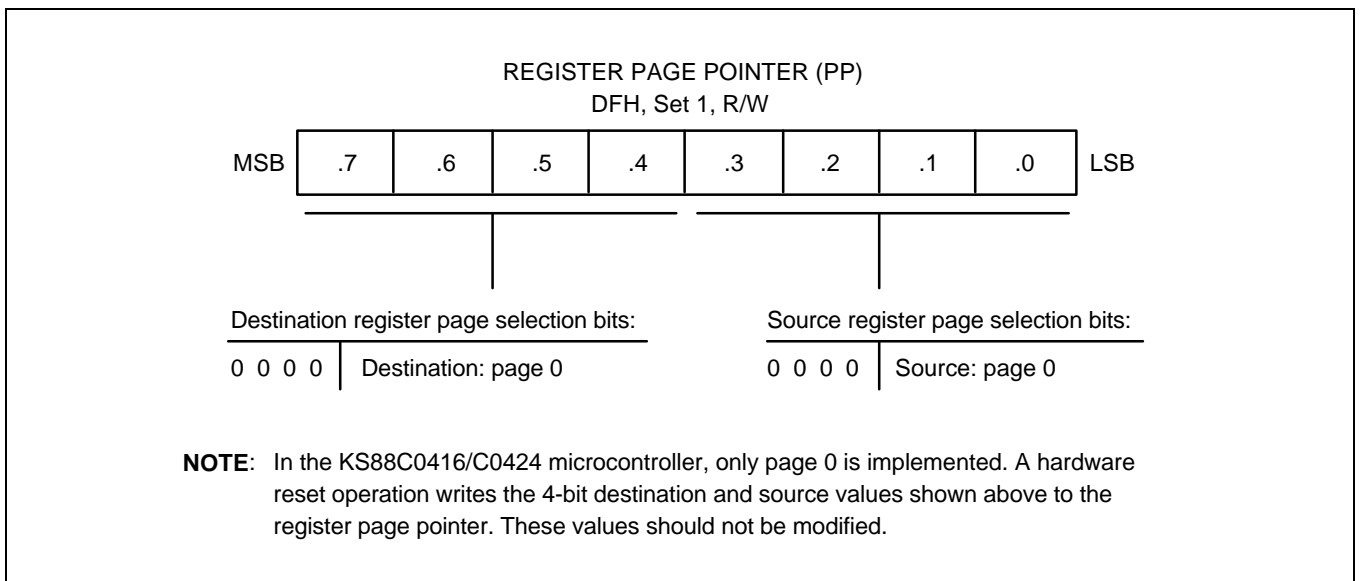

Figure 2-3. Register Page Pointer (PP)
After a reset, the page pointer's source value (lower nibble) and the destination value (upper nibble) are always "0000", automatically selecting page 0 as the source and the destination page for register addressing. These page pointer (PP) register settings, as shown in Figure 2-3, should not be modified during the normal operation.